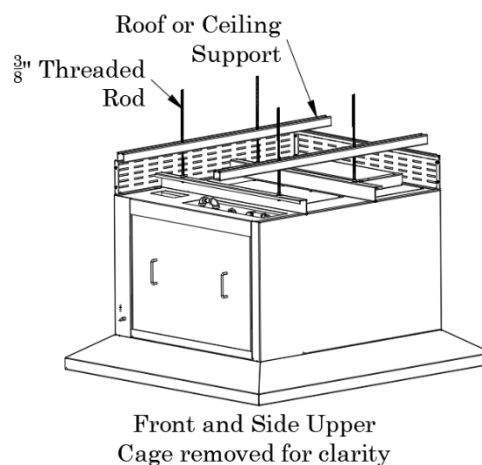

Figure 2.2
2. Insert 3/8 in. (9.525 mm) diameter threaded rod (supplied by others) into hanging rails on the hood top (Figure 2.2). Raise and hang the hood from adequate roof or ceiling supports (Figure 2.3). Ensure to maintain dimensions shown (Figure 2.4).